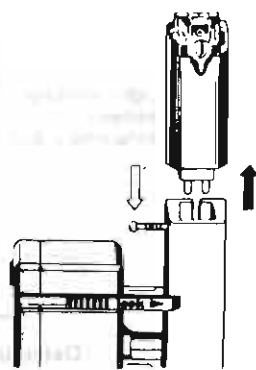

Fig. 3
4. Pull out the cartridge taking care not to touch the stylus tip. (See Fig. 3)